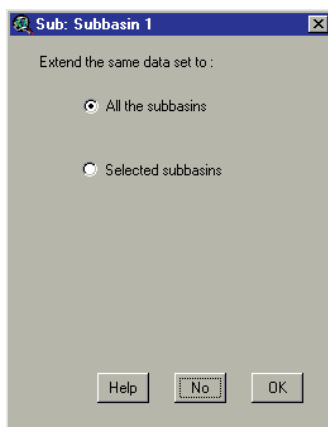

Figure 12.20
4. If the user saves the modified values, once the values are saved for the subbasin (by clicking **OK** in Step 3), a new dialog box is displayed allowing the user to copy the modifications to other subbasin data sets (Figure 12.20).